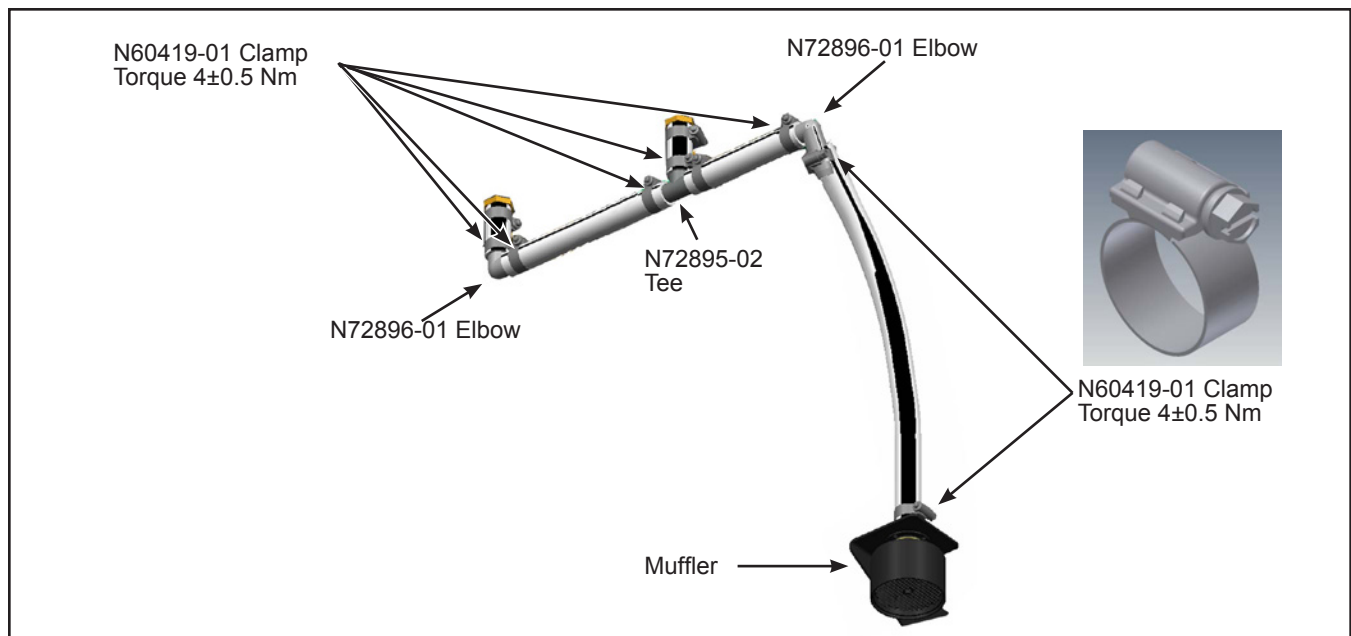

Figure 4 - Parts for the Hose Assembly
- 1.4. Assemble the hoses with N72896-01 elbows and N72895-02 tee with N60419-01 clamps. See Figure 4 for the corresponding torque. To facilitate the assembly, use a P-80 Redilube type lubricant or equivalent. See Figure 4.
- 1.6. Affix the assembly hoses to the muffler with a N60419-01 clamp. See Figure 4 for the torque.